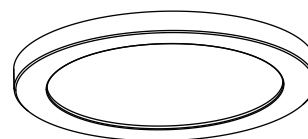

fig. 5
6. Turn the power back on, and the installation is complete. (fig. 5)